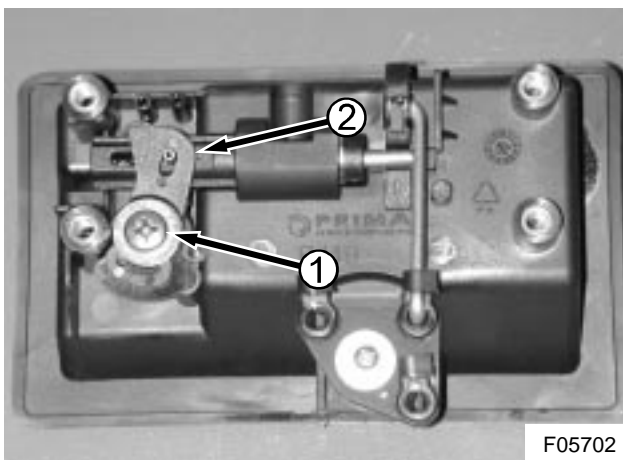

Figure 1: Door lock assembly complete
- 2) Undo the screw indicated in 1, Figure 1. Remove the screw and plain washer.
- 3) Take note of the installation of the upper cam (see 2, Figure 1). Remove the upper cam.